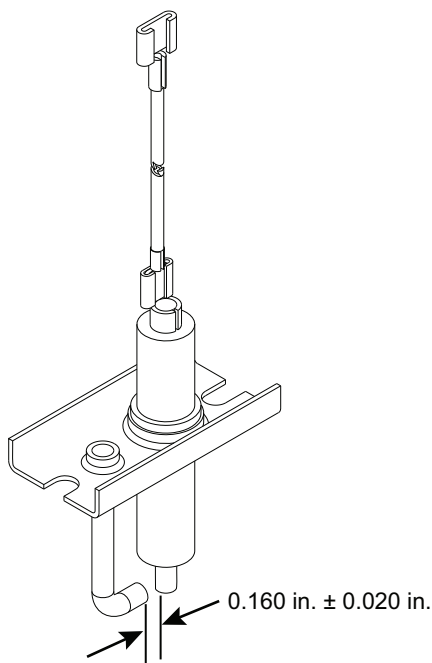

Fig. 51 — Igniter Spark Adjustment
4. Remove igniter modules from the top of the burner box assembly. Inspect and adjust the spark gap, if necessary. (See Fig. 51.)